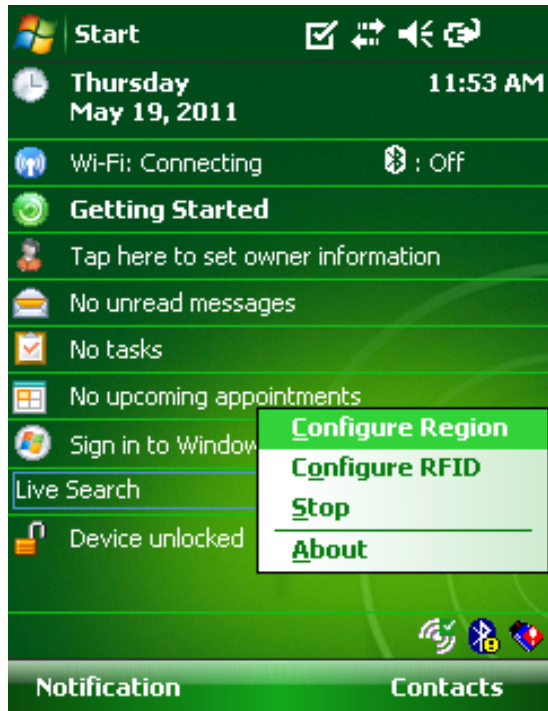

Figure 3-2 *MobileRFID Icon Menu*
1. Tap the MobileRFID icon to display the option menu (see Figure 3-2 on page 3-3) and tap **Configure Region** on the menu. The *Region Configuration* window displays.